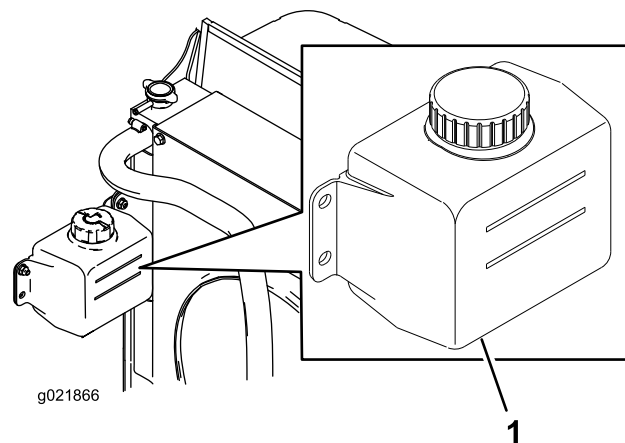

Figure 78
1. Check the level of coolant in the expansion tank (Figure 78).